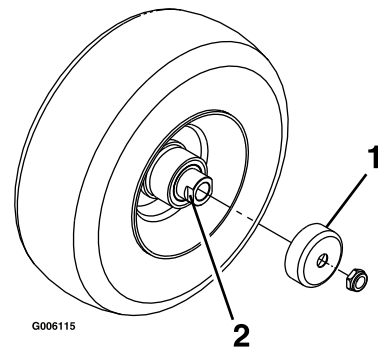

Figure 44
5. Remove the seal guards from the wheel hub (Figure 44).